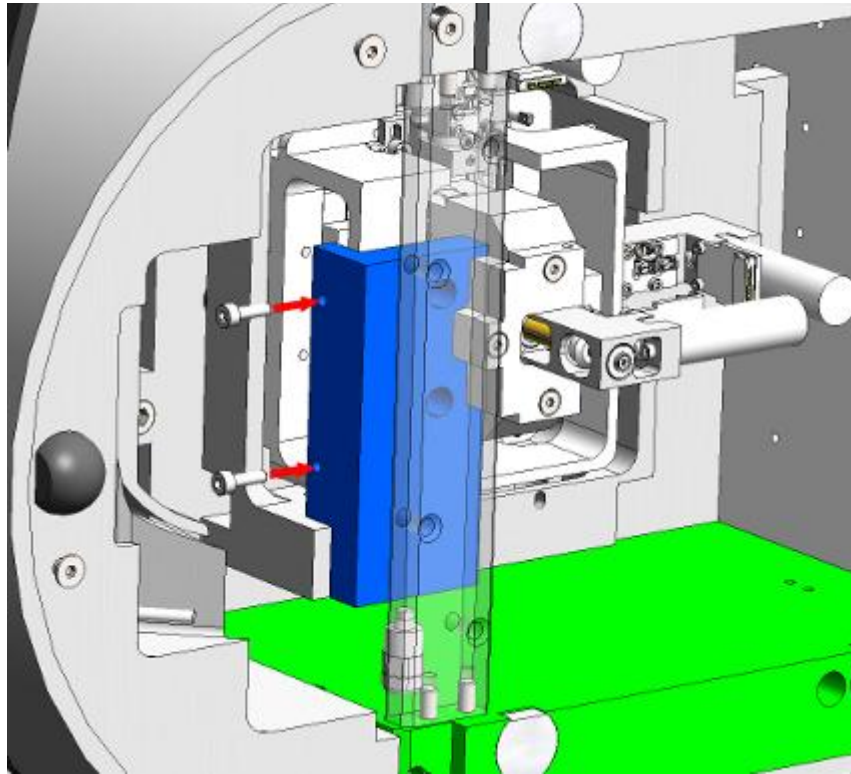

Fig. 2-5. Securing bracket
3. Secure the bracket with two screws M3 (Fig. 2-5).